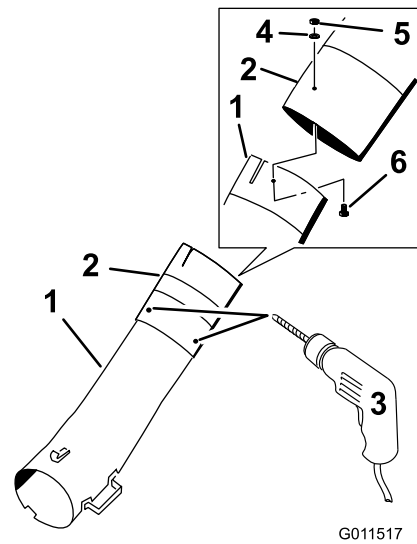

Figure 21
3. Using the three holes or indentations in the middle tube as a template, drill three holes (7/32 inch diameter) where the lower and middle tubes join together (Figure 21).
4. Loosely install the lower and middle tubes with 3 bolts (#10 x 3/4 inches), 3 flat washers (7/32 inch), and 3 locknuts (#10) (Figure 21).